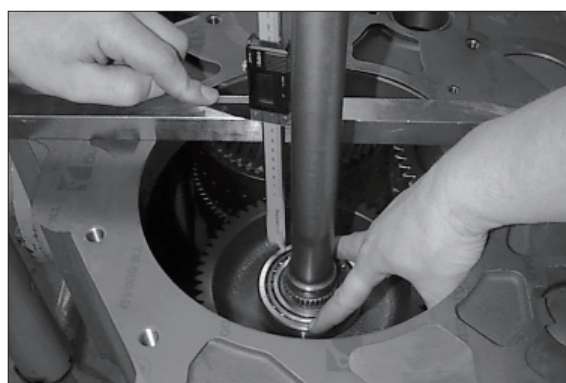

Figure 326
**Adjust the axial play of the input shaft bearing = 0.0~0.05 mm (figure 326~328) :**
(16) Put on the gasket.